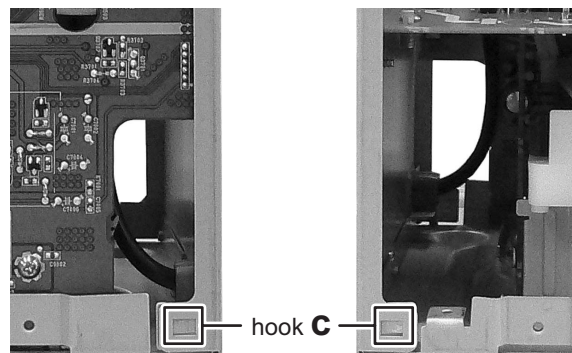

Fig.9
- (3) Disengage the hook **c** engaged both side of Rear panel. (See Fig.9)